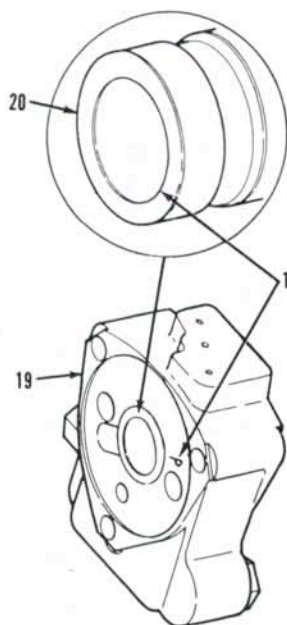

Fig. 36—Install valve spool (20) so end with shortest ID chamfer (1) is on side of valve body (19) marked "P."
To reassemble, reverse the disassembly procedure while noting the following special instructions. Position ball nut in center of travel on worm shaft, then install sector shaft with center tooth of sector gear engaging center teeth of ball nut. Assemble valve spool (20—Fig. 36) in valve body (19) so short inside diameter chamfer end of spool is on side of body marked with a "P." Assemble control valve assembly and thrust bearings over worm shaft, then install special assembly plate (Fig. 35) to hold control valve components in place. Adjust steering shaft thrust bearing preload as follows: Turn steering shaft (13—Fig. 37) counterclockwise while holding adjusting nut (26) until all shaft end play is removed. Then turn shaft $\frac{1}{2}$ turn (45°) clockwise (B) while holding nut. Bend tabs of lockwasher to prevent nut from loosening. Remove assembly plate, then install "O" ring (18—Fig. 32) and retainer housing (28).
To reassemble steering gear, reverse the disassembly procedure while noting the following special instructions. When renewing sector shaft seals, install inner seal (24) with open side facing inward and install outer seal (22) with open side facing outward. Install new worm shaft oil seal (48) in end cover (46) with lip facing inward. Teflon seal rings can be softened by soaking in hot water to aid installation. Be sure that end of control valve spool with the short inside diameter chamfer is on side of valve body marked with a "P" as shown in Fig. 36.